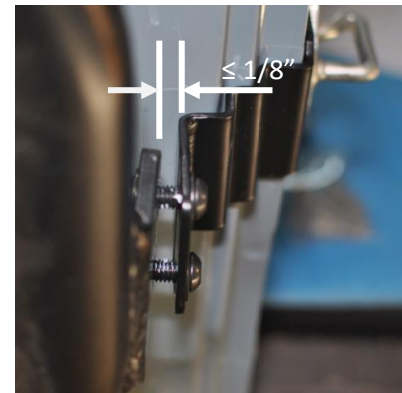

Figure 7: Gap Between Bracket and Product
- d. There should be a small gap at the center bracket before tightening (0-1/8"). If the gap is larger than 1/8", use the provided 1/8" washers as shims (PN 70448) to close the gap to $\leq 1/8$ " (See Figure 7).